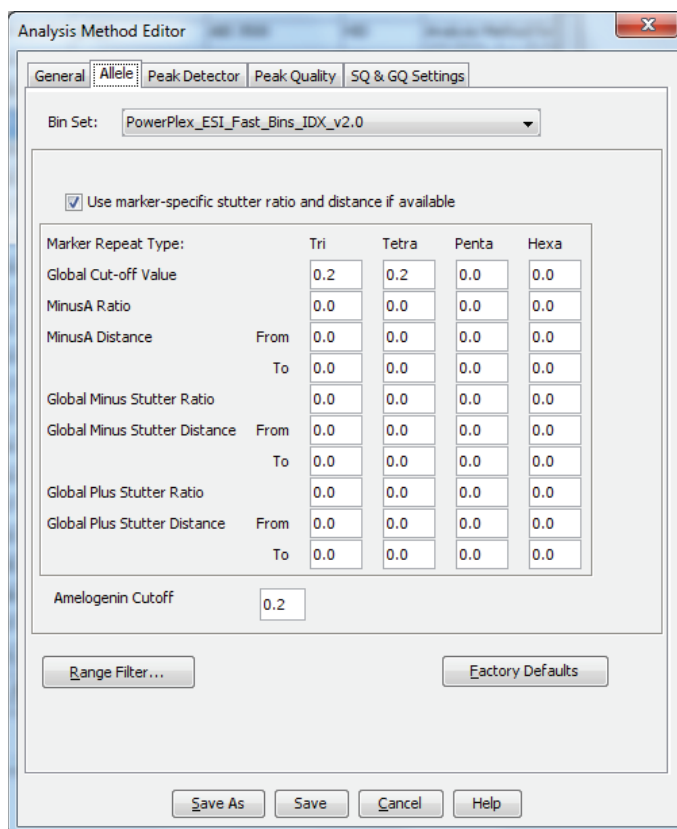

Figure 25. The GeneMapper® ID-X 'Allele' tab with settings for using a 20% peak filter.
6. Select the 'Allele' tab (Figure 25).
8. Ensure that the 'Use marker-specific stutter ration and distance if available' box is checked. Doing this will assign locus-specific stutter filters and distances from the imported stutter file. Ensure that the appropriate global filter is applied to this analysis method. For example, for a 20% filter enter "0.20" for the Amelogenin Cutoff and Global Cutoff Value for Tri and Tetra repeats (Figure 25). You may need to optimize these settings. In-house validation should be performed.